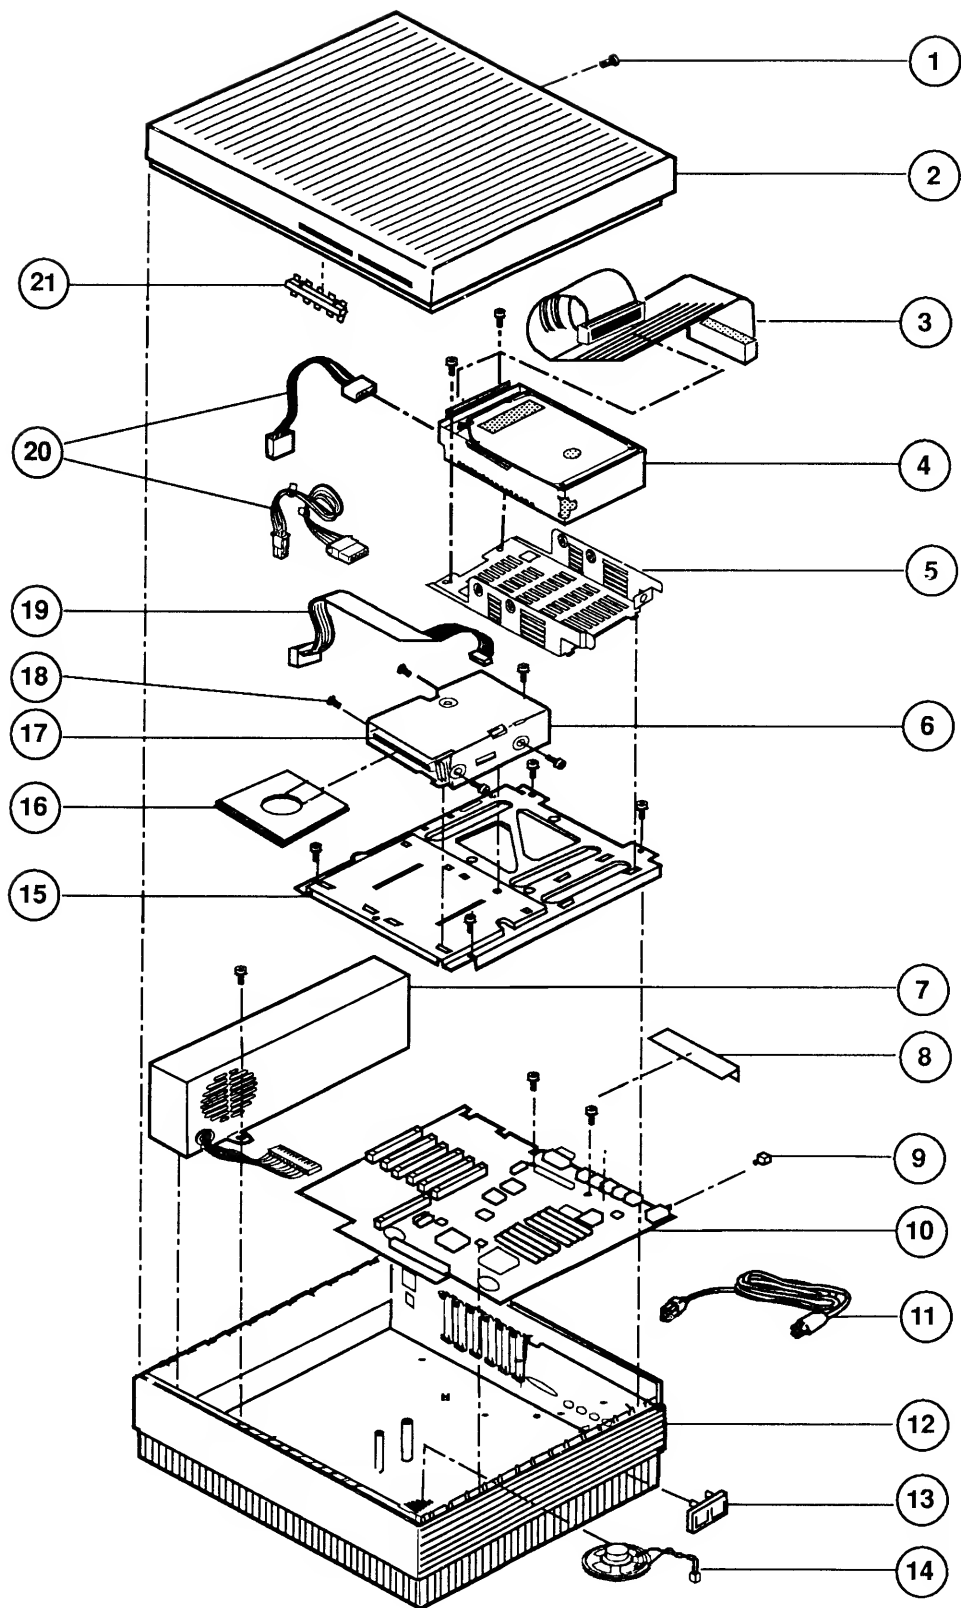

Figure 1
- IPL.3 Macintosh II/Ix/IIfx – System Exploded View (Figure 1)
□ MACINTOSH II/IIfx/IIfx – SYSTEM EXPLODED VIEW (Figure 1)